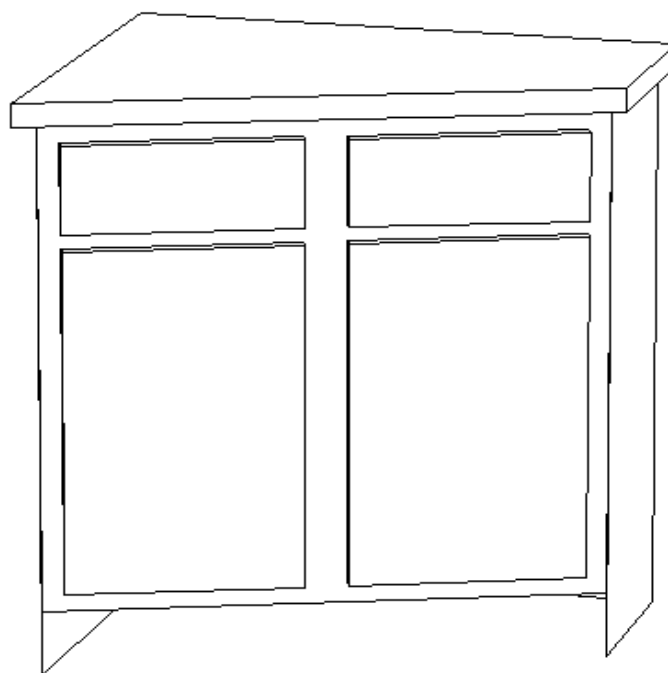

Figure 9
8. Use the **EXTRUDE BLOCK** command under the **BLOCKS** menu to extrude the top to its finished height, figure 9.
9. Using the *BLOCK LAYER* command under the *LAYER (L)* menu block layer **0**, then use the *MOVE LAYER* command to move layer 0 to the countertop layer (layer **9**) and return to the drawing.